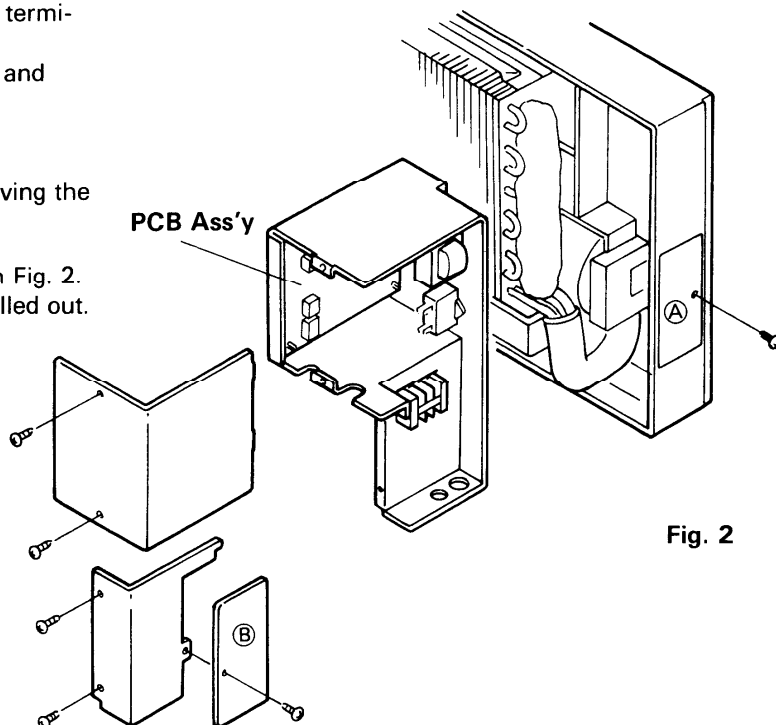

Fig. 2
- 2) Remove the cover plates (A) and (B) by unfastening a screw.
- 4) Remove or loosen the connector socket and lead wires in accordance with Fig. 2.
- 5) Unfasten the screws in accordance with Fig. 2. The electrical component box can be pulled out.